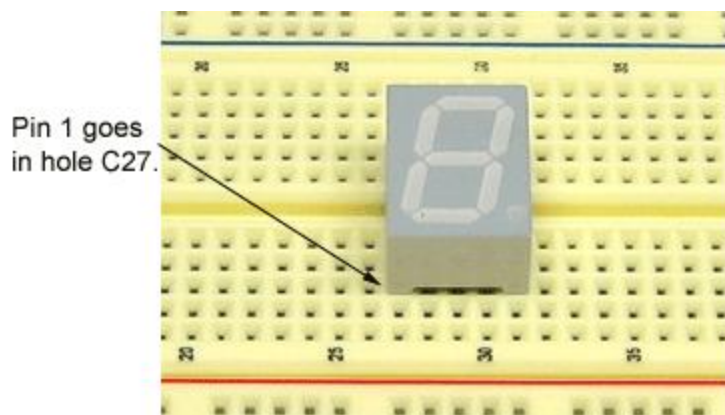

Figure 14. Seven-segment display on breadboard.
2. Plug pin 1 in hole C27, as shown in Figure 14. The remaining pins along the lower edge of the display should go in holes C28, C29, C30, and C31. **NOTE: Be careful not to bend the pins as you insert the component into the breadboard.**